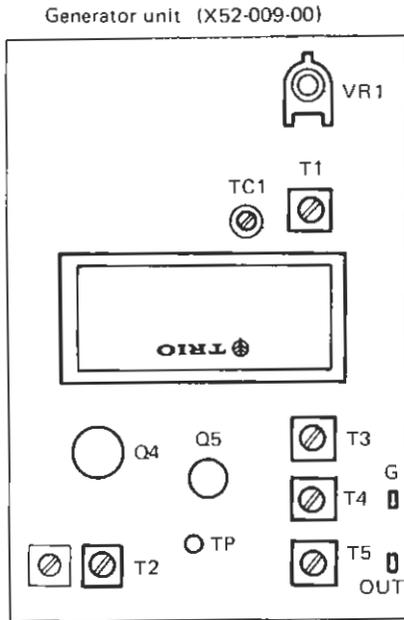

Fig. 2
2. BM (BALANCED MODULATOR) and CARRIER position (Refer to Fig. 2, 3)